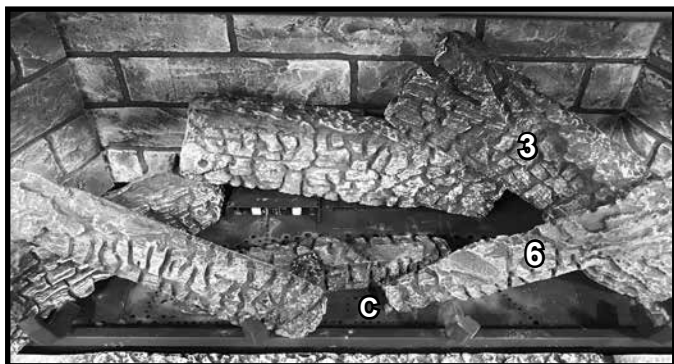

Figure 21. Log #6 Installed
**LOG #6:** Place the burnout tip of Log #6 against pin C and position between two rows of burner parts. Place the bark end on the flat spot of Log #3. See Figure 21.